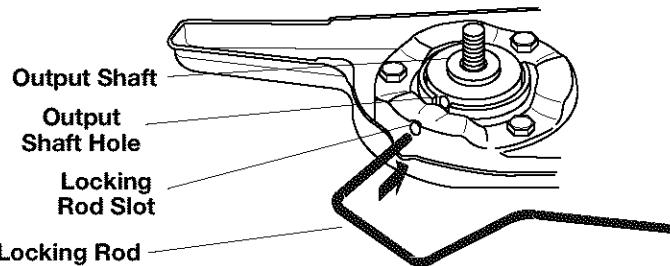
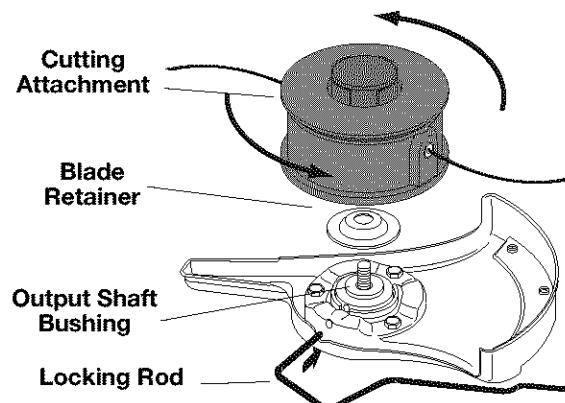

Fig. 5
Fig. 11
1. Line up the hole in the output shaft with the locking rod slot. Insert the locking rod through the slot into the output shaft hole (Fig. 5).
1. Align the shaft bushing hole with the locking rod slot and insert the locking rod into the bushing hole (Fig. 5).
5. Align the output shaft hole with the locking rod slot and insert the locking rod into the output shaft hole. (Fig. 5). Place the blade retainer on the output shaft with the flat surface against the output shaft bushing as shown in Fig. 11. Screw the cutting attachment counterclockwise onto the output shaft. Tighten securely.